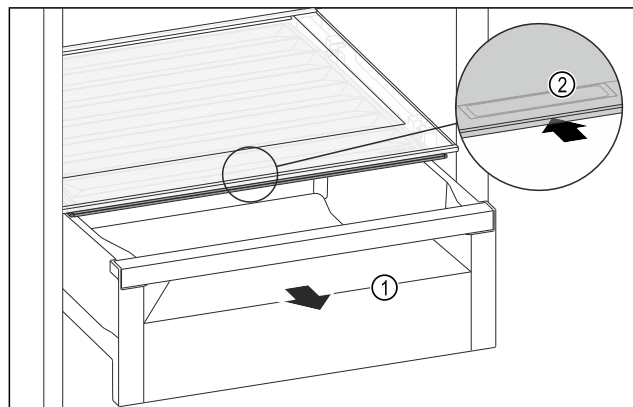

Fig. 140
- Pull out the drawer Fig. 140 (1).
- Grasp the recessed grip Fig. 140 (2) on the compartment lid and push the compartment lid backwards at the same time.